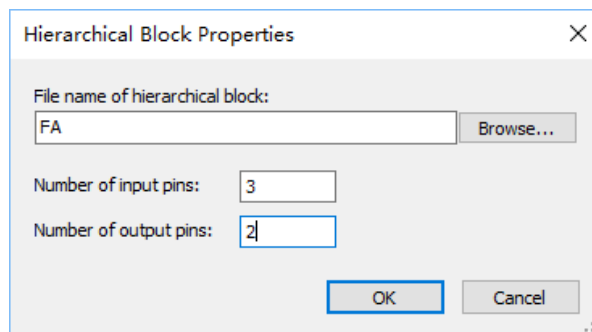

Figure 4. Creating a hierarchical block
- In the “Hierarchical Block Properties” window, give a name to the block you are creating, and specify the number of inputs and outputs; obviously we will create a 3 input and 2 output circuit block, as shown in Figure 4;